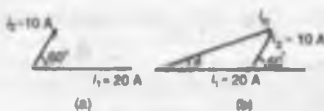

Figure 14.12
- (a) The relative positions of i_1 and i_2 at time $t = 0$ are shown as phasors in Fig. 14.12(a). The phasor diagram in Fig. 14.12(b) shows the resultant i_R , and i_R is measured as 26 A and angle ϕ as 19° or 0.33 radians leading i_1 .
- (b) From Fig. 14.12(b), by the cosine rule: